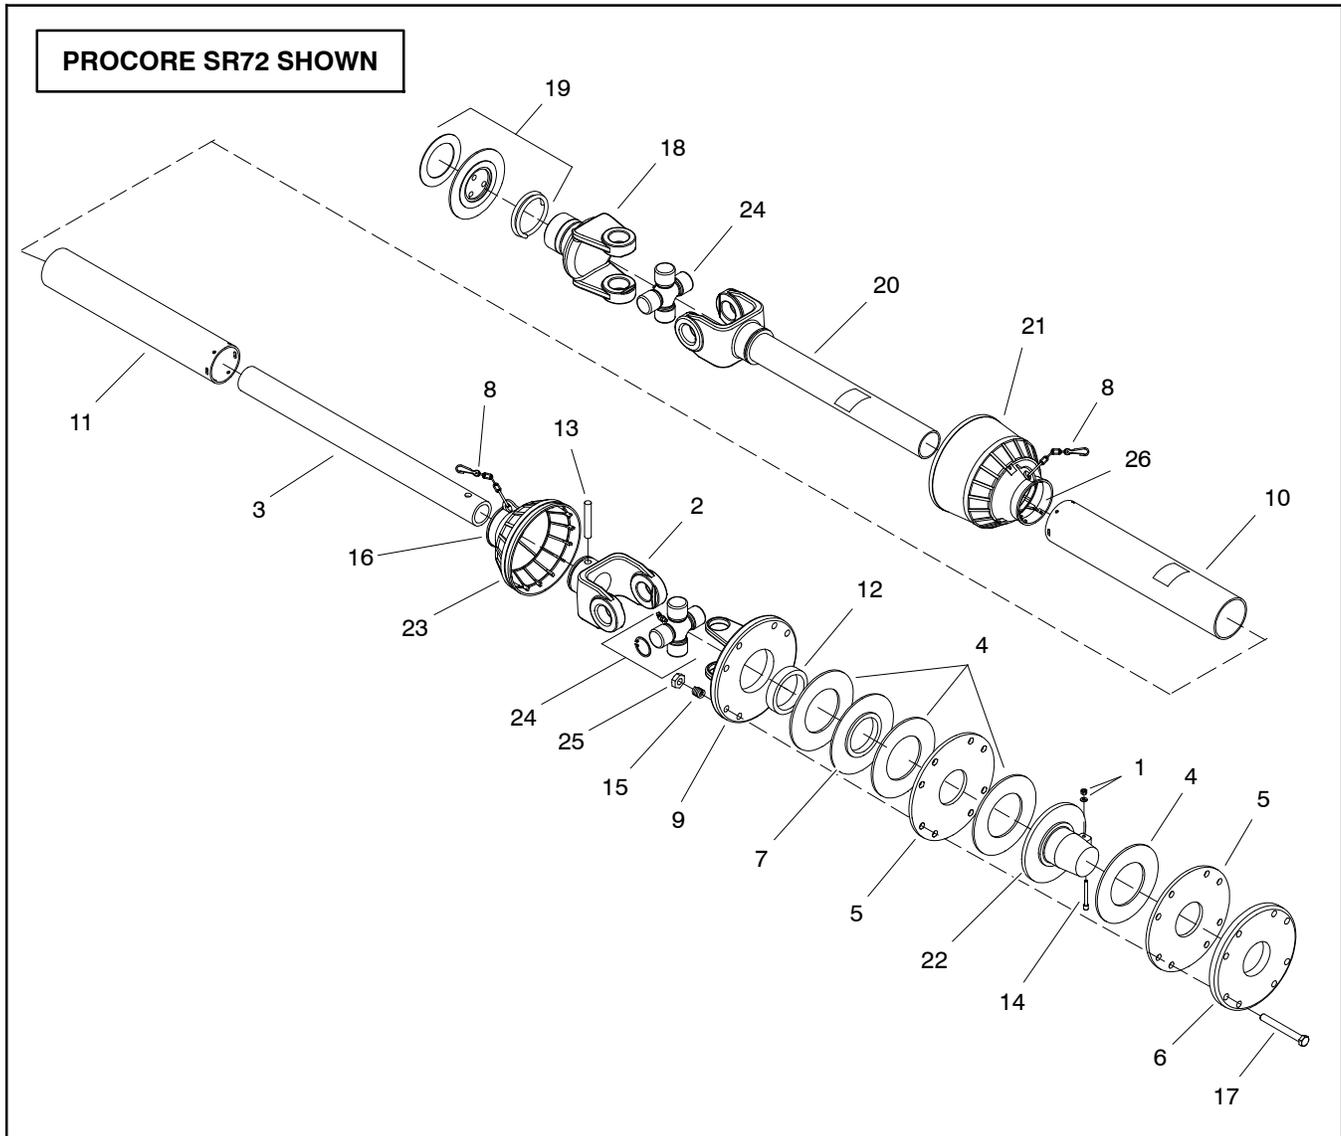

Figure 11
Clutch Disassembly (Fig. 11)
3. Remove eight (8) cap screws (item 17), nuts (item 25) and springs (item 15) that secure clutch assembly to driveshaft flange yoke.
4. Remove clutch components from driveshaft using Figure 11 as a guide.
Clutch Assembly (Fig. 11)
1. Assemble clutch components to driveshaft using Figure 11 as a guide.